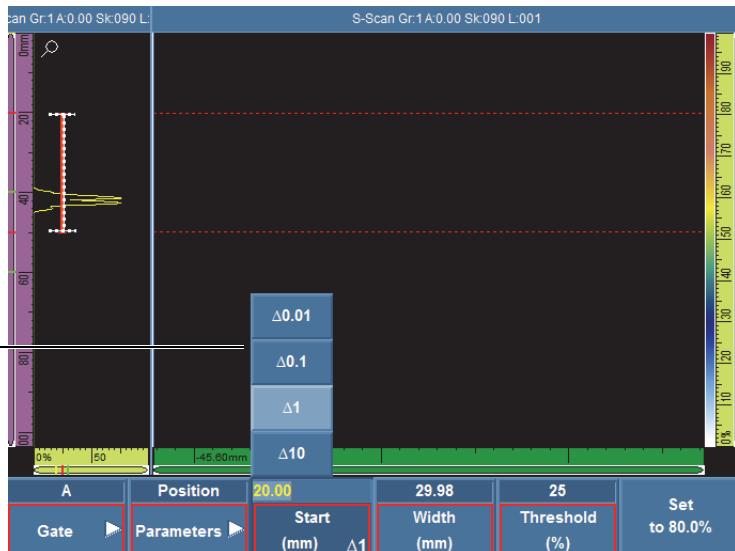
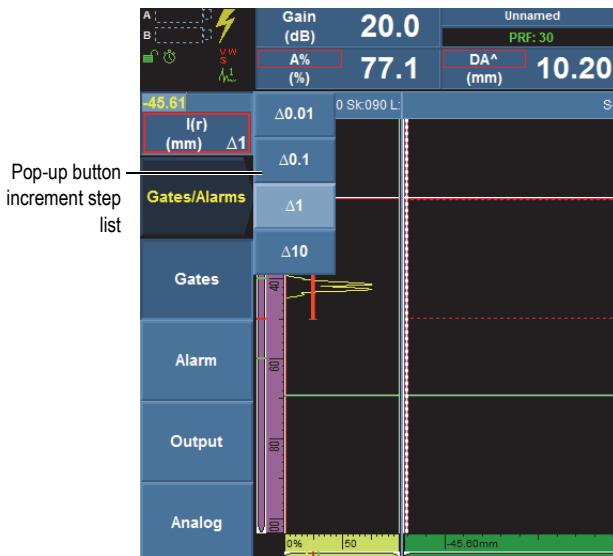

Figure 2 Parameter increment step list
Figure 3 Pop-up button increment step list
- To change a numeric increment/decrement step (Δ) value, click the parameter once to enable the Edit mode, right-click the numeric parameter and then, in the list, select the desired increment step (see Figure 2 on page 4). The increment list is also available for pop-up buttons (see Figure 3 on page 4).